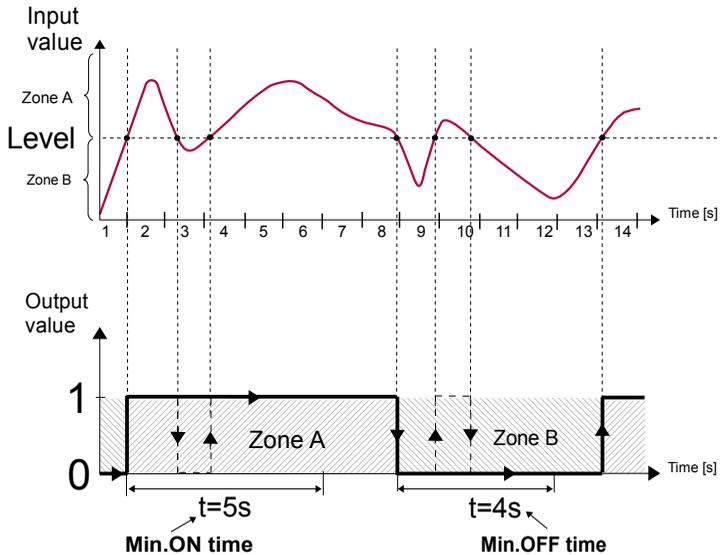

Fig. 7.83. Principle of relay output operation for sample timing settings:
- **Minimum ON time** - the minimum duration of a high state (if the output switches to high state the low state will occur after this time) - see Fig. 7.83,
- **Minimum OFF time** - the minimum duration of a low state (if the output switches to low state the high state will occur after this time) - see Fig. 7.83,